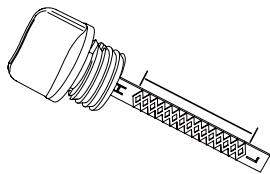

Figure 2-13. Safe Operating Range
6. See Figure 2-13. Remove dipstick and verify oil level is within safe operating range.